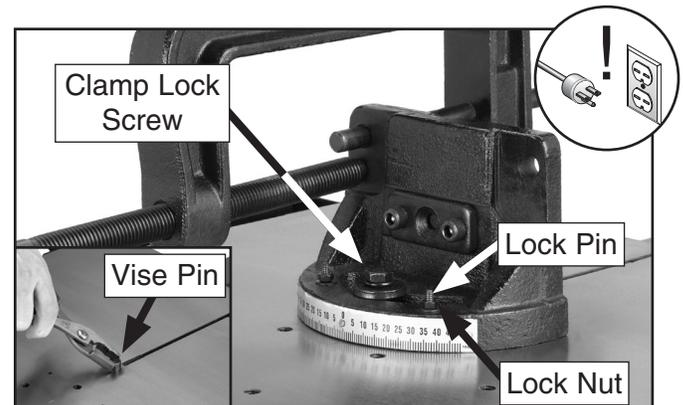

Figure 20. C-clamp vise removal.
1. Remove the lock pins from the vise by turning the lock nuts clockwise to release the pins from the holes (Figure 20).